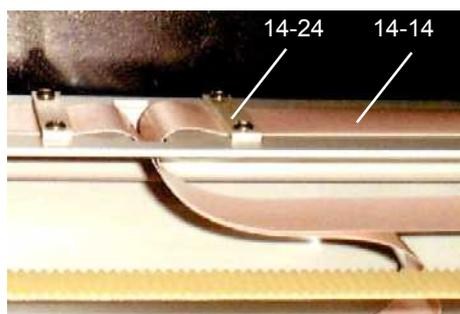

Figure 6-114 Cable clamp in X-bay
- Carefully pull it through the opening below the Optibo board and the one in the X-bay (see Figure 6-114).